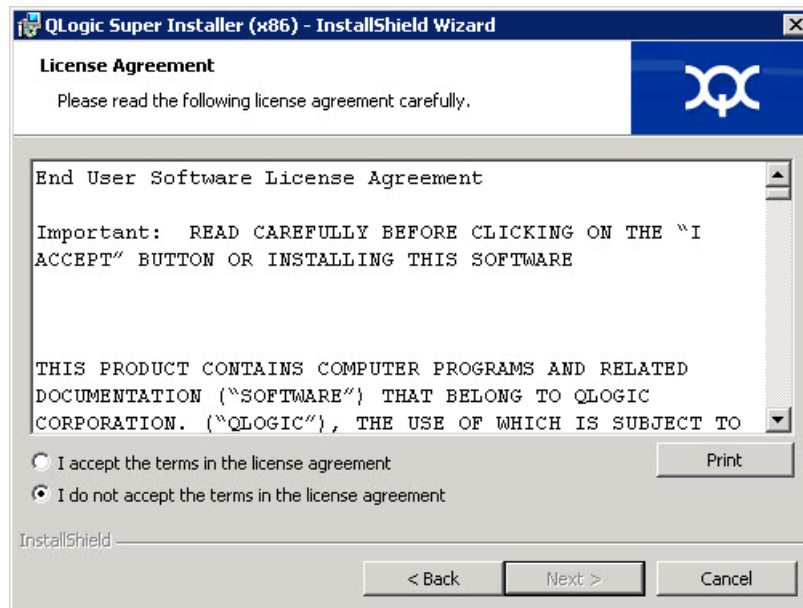

Figure 2-3. QLogic InstallShield Wizard: License Agreement Window
4. In the wizard's License Agreement window (Figure 2-3 on page 8):